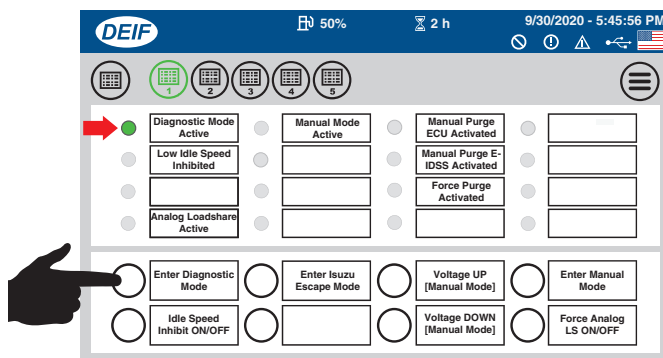

Figure 209. AOP1 Screen (Diagnostic Mode)
1. Navigate to the **AOP1 screen** (Figure 209) and press the **Enter Diagnostic Mode button**.
2. Verify that the **Diagnostic Mode Active status indicator** is **ON (GREEN)**. See Figure 209.